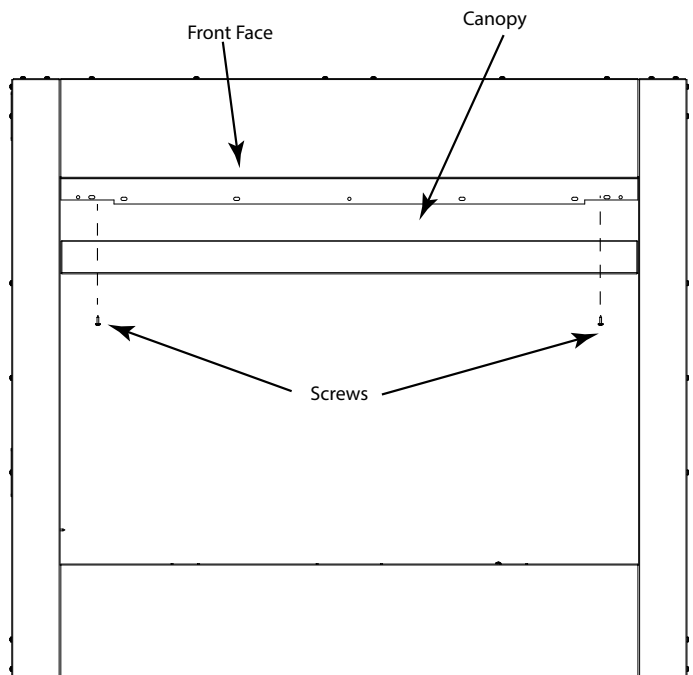

Figure 7.3 Canopy Installation
3. Insert screen rod and screen assembly into small hole on either side and attach screen rod through canopy into screen assembly spacers with supplied screw. Figure 7.3